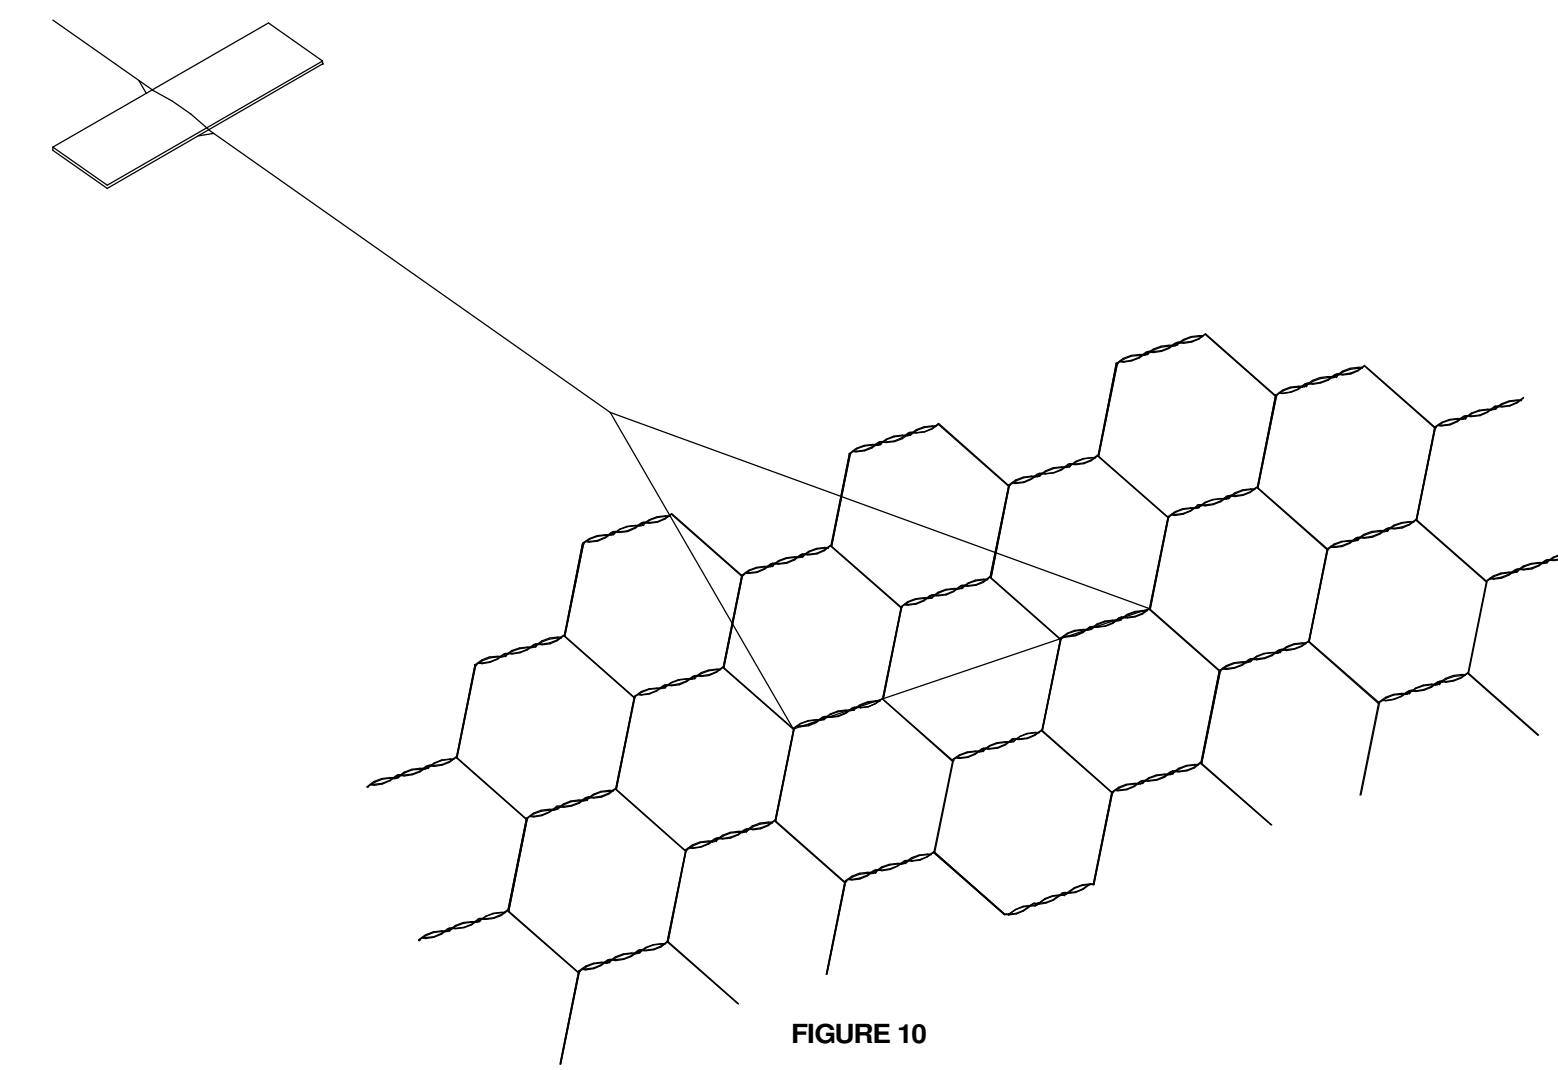

FIGURE 10
3. USE APPROXIMATELY 2.3 - 2.7m OF BINDING WIRE PER BRACE FOR A 1M GABION AND 3.3 - 3.7m FOR A 1.5m GABION. THREAD THE WIRE AROUND TWO MESH OPENINGS ON THE FRONT AND THE REAR FACES OF THE BASKET AND TWIST THE ENDS TOGETHER IN THE MIDDLE. TENSION THE BRACE BY WINDLASSING WITH A PLIER HANDLE UNTIL THE FRONT FACE IS IN LINE. (FIGURE 10)